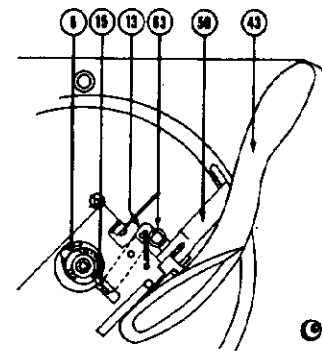

Fig. 8
<p>CHANGING A RECORD (Fig. 8) Pick-up Arm (43) approaches end of record.</p>	<ol style="list-style-type: none"> 1. Trip Roller (63) on Link Assembly (50) approaches and moves Reject Lever (13) so that this lever releases Clutch Arm (15). 2. As Clutch Arm (15) is released, it engages the rotating Clutch and Turntable Shaft (8) which starts the entire mechanism thru its change cycle.